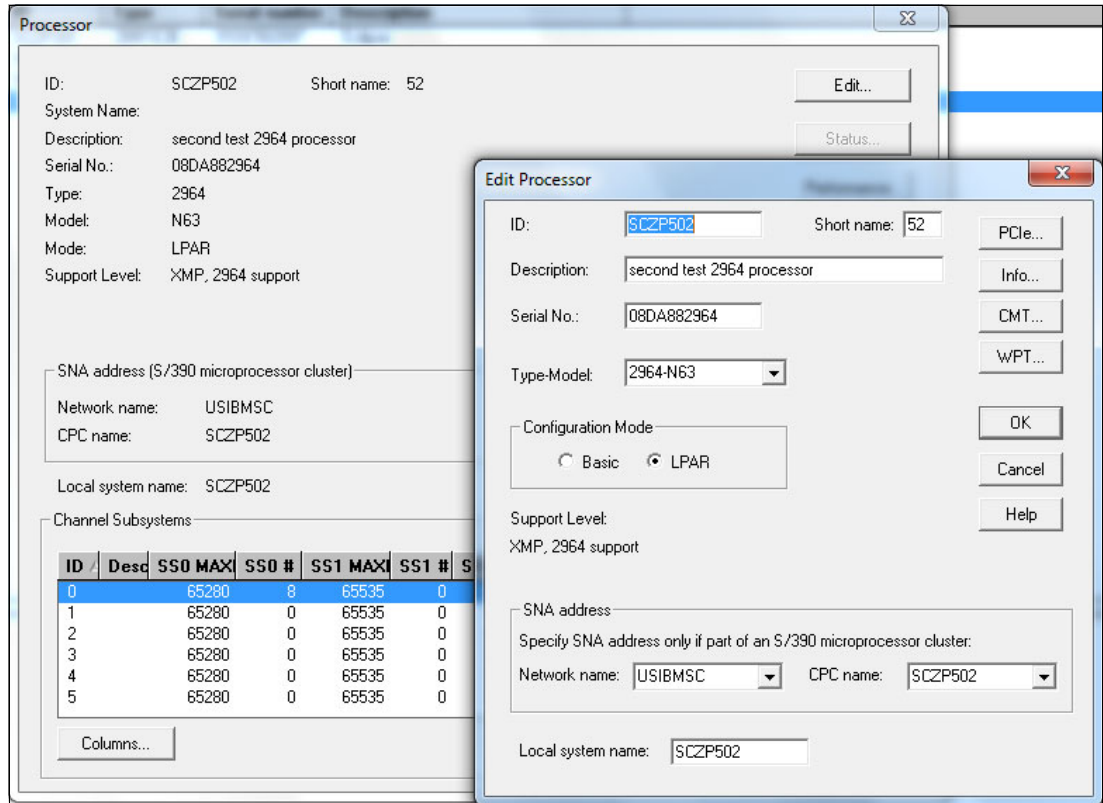

Figure 5-40 HCM - Edit Processor: PCIe functions
3. Click **Edit** → **PCIe** (Figure 5-40 on page 192).